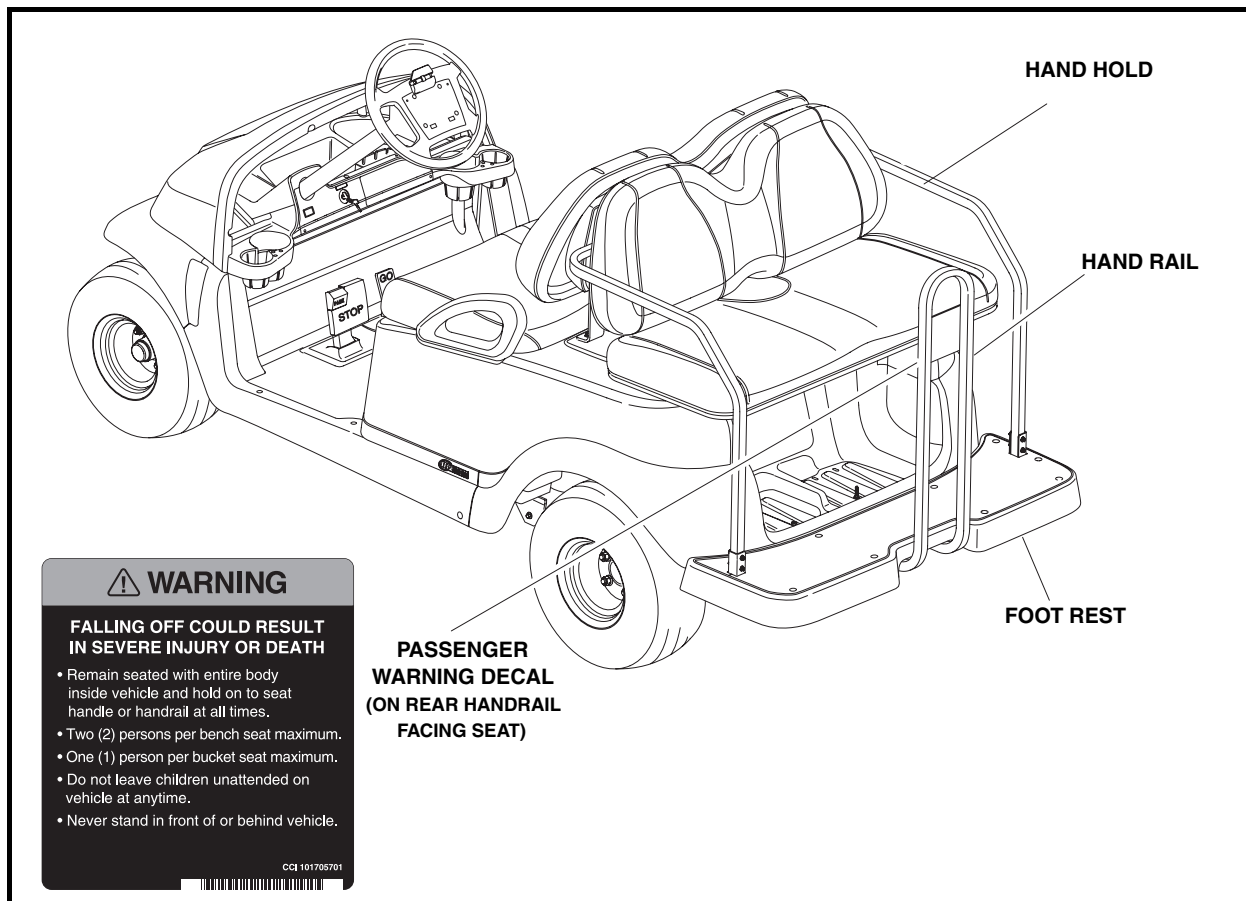

Figure 33 Precedent Villager 4
- **Passengers should hold on to hand holds or hand rails at all times (Figure 33, Page 46). Driver should keep both hands on the steering wheel while vehicle is moving.**